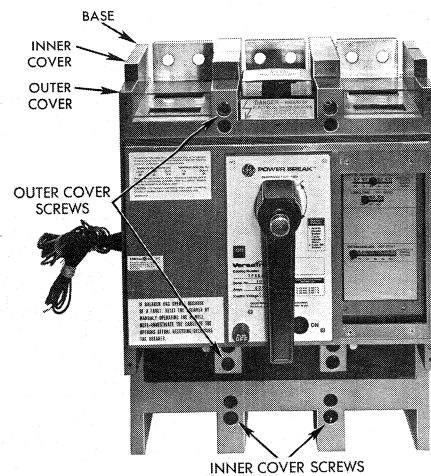

Fig. 7. 1200-1600A Frame Electrical Breaker
- 1200-1600A Frames only — Remove two inner cover mounting screws. (see Fig. 7).
- e. 1200A-1600A Frames only — Replace two (2) inner cover mounting screws, see Fig. 7. Tighten to 50-60 inch pounds torque.